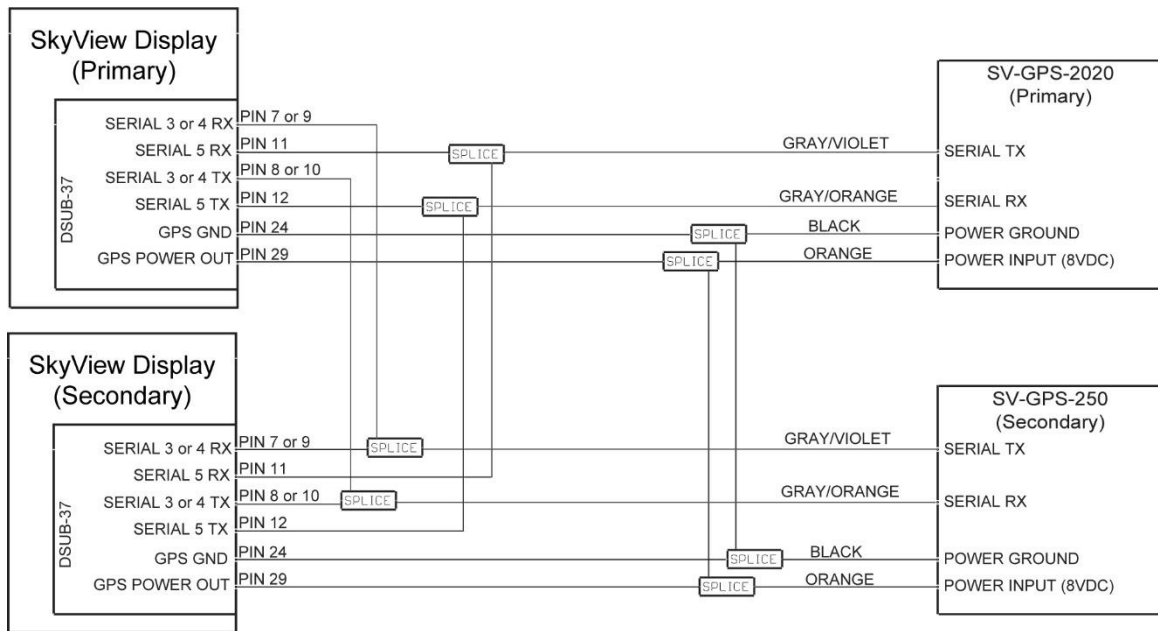

Figure 119 – SV-GPS-2020 and SV-GPS-250 Connected to Multiple Displays (not applicable to SkyView SE)
If your installation has two or more displays and more than one SV-GPS-250/2020 (including one SV-GPS-250 and one SV-GPS-2020, all four wires of the SV-GPS-250 and/or SV-GPS-2020 must be connected to the *primary and secondary displays*, as shown in Figure 119). Note that secondary SV-GPS-250's transmit (TX) and receive (RX) wires are connected to another serial port, preferably port 3 or 4.
The following configuration uses Serial Port 4 for the (secondary) SV-GPS-250 as shown in Figure 119 – SV-GPS-2020 and SV-GPS-250 Connected to Multiple Displays. As explained there, use of Serial Port 4 for the SV-GPS-250 (secondary GPS) is for illustration only. Serial Port 1, 2, 3, or 4 (if available) may be used for the SV-GPS-250 (secondary GPS).